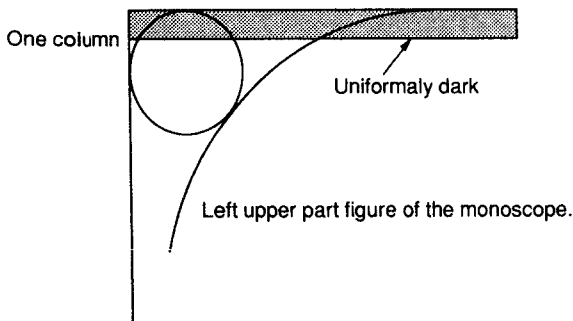

Fig. 5
- 7) Adjust the VR so that the upper-most one column becomes uniformly dark. (Fig. 5)